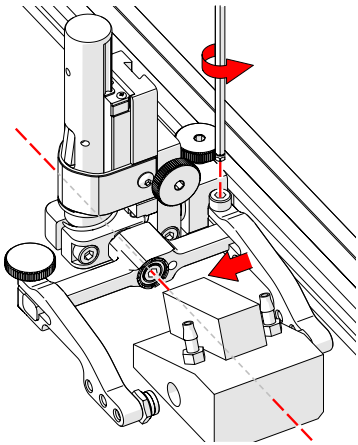

Fig. 92 - Adjust inner arm
4. Position the wedge on the inner probe holder arm (Fig. 92).
**TIP:** The probe holder yoke can accommodate many different probe and wedge sizes of varying widths. It is best to centre the wedge with the yoke's pivot axis. This can reduce wedge 'rocking' when scanning. Position the inner probe holder arm accordingly (Fig. 92) using the supplied 3 mm hex driver (Fig. 39).